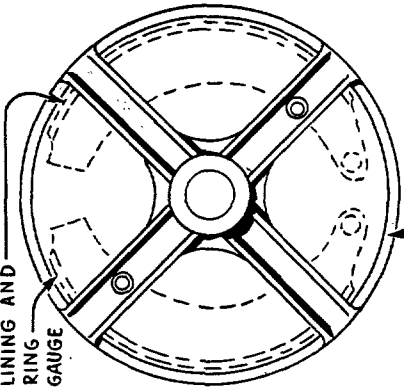

Figure 4
1. The eccentric mounting of the two anchor pins C (Fig. 1), allows recentering of the brake shoes. If there are no inspection holes in the brake drums they should be removed and a ring gauge used (Fig. 4).